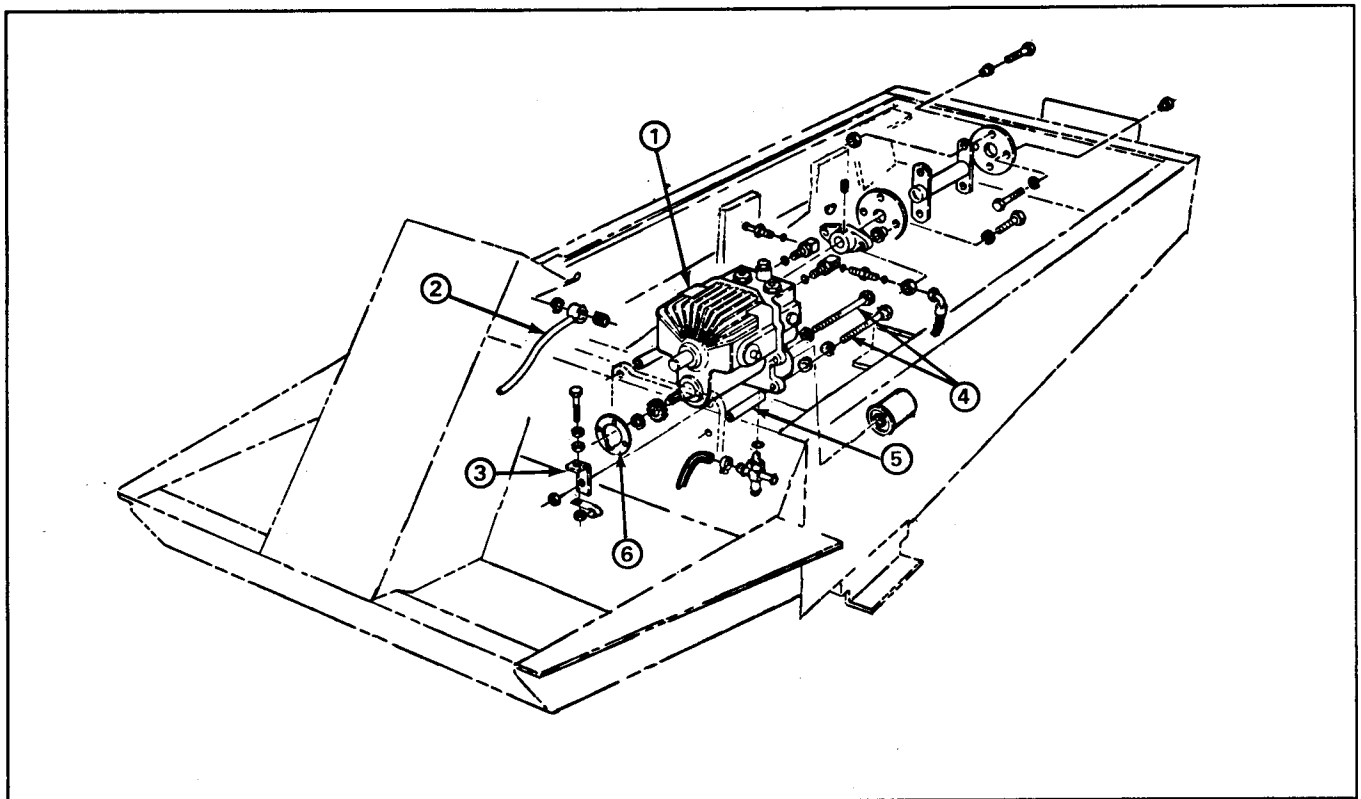

Figure 27
8. Disconnect and remove the traction pedal control rod where it connects to the pump lever on the right-hand side of the transmission (Fig. 27).
12. Remove the gasket that fits between the transmission and the differential (Fig. 27). Carefully clean the area of the differential where the new or rebuilt transmission will be installed.